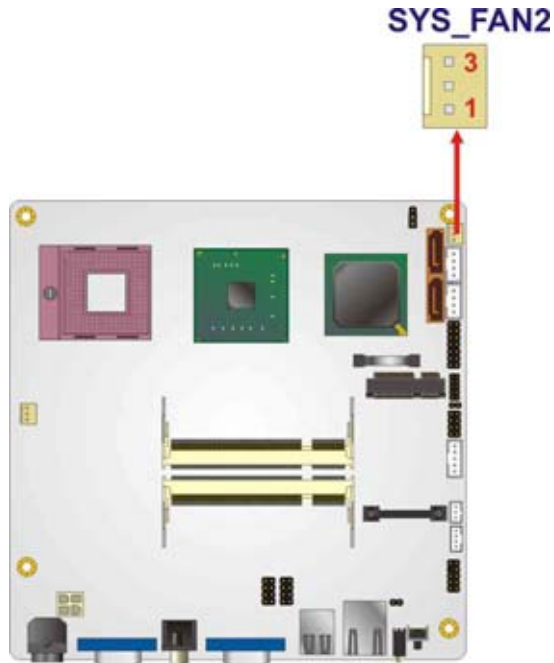

Figure 3-17: System Fan Connector Location
- CN Location:** See **Figure 3-17**